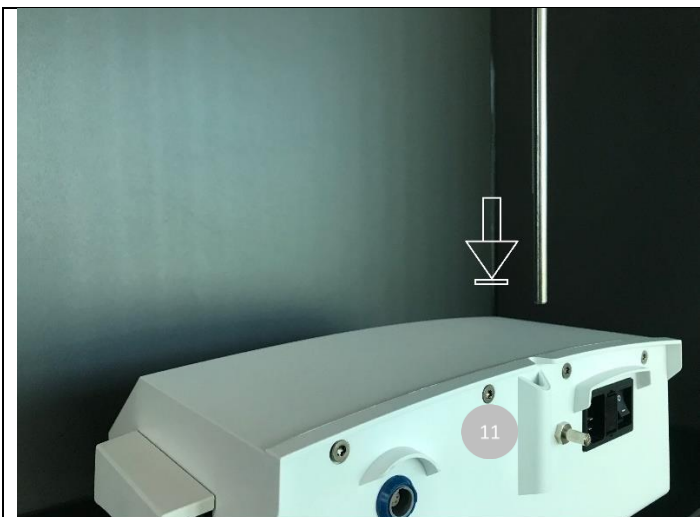

fig. 4
G. Align and attach the bracket to the housing provided on the console's rear (11) and suspend the irrigation solution flask or bottle **fig. 4**.